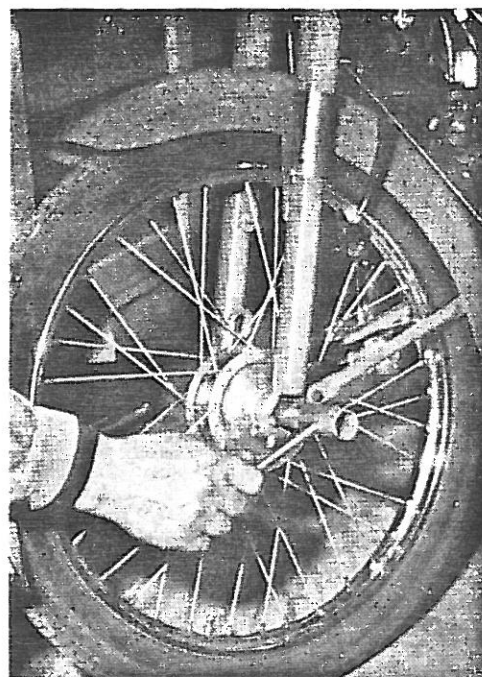

fig. 8
- b. Slip the axle snugly into the fork keeping the flat washers between the fork and the outer axle nuts. While mounting the wheel on the fork, slip the torque arm over the pin located about two inches above the bottom of the right (rider's view) fork. Keep the flat portion of the speedometer drive horizontal as shown. (Fig. 8).